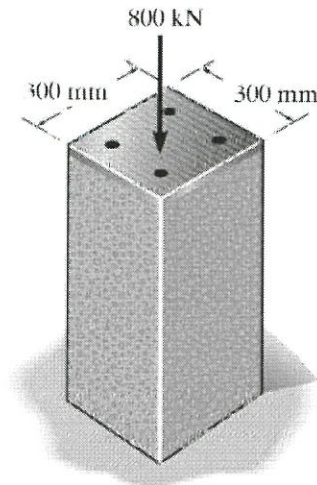

Figure Q2
- Q2** The column shown in Figure Q2 is constructed from high-strength concrete ($E_c = 25$ GPa) and four A-36 steel ($E_{st} = 200$ GPa) reinforcing rods. If it is subjected to an axial force of 800 kN, determine the required diameter of each rod so that one-fourth of the load is carried by the steel and three-fourths by the concrete.